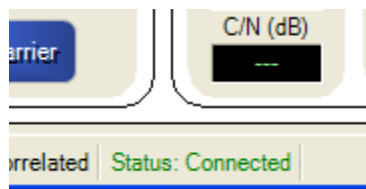

Figure 1-11: Status Connected Indicator
8. TestKit indicates the connected status by displaying *Status: Connected* in the status bar at the bottom of the window, as shown in Figure 1-11.